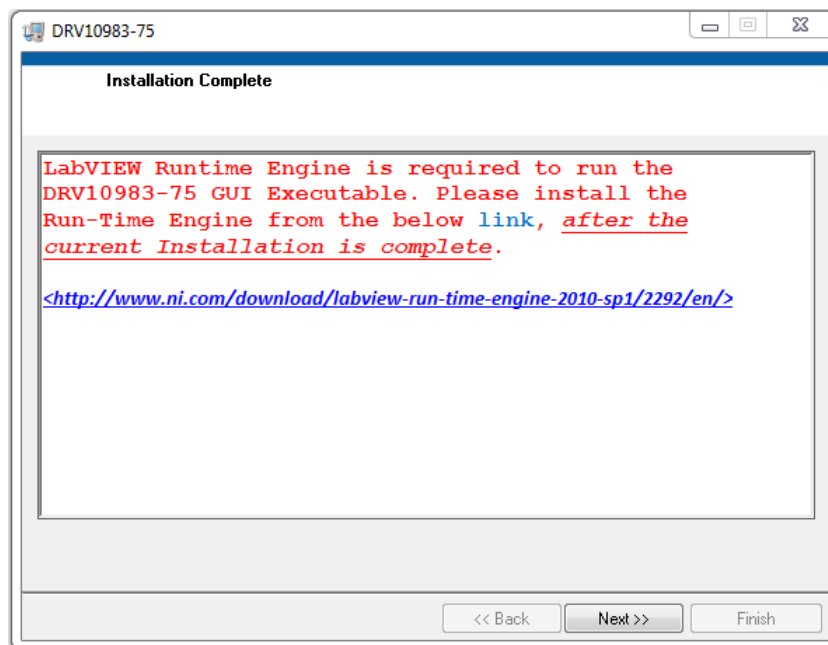

Figure 16. GUI Installation Complete
- The *Installation Complete* screen (Figure 16) appears, providing the link for LabVIEW Runtime Engine. This denotes the completion of DRV10983/75 GUI Installation.